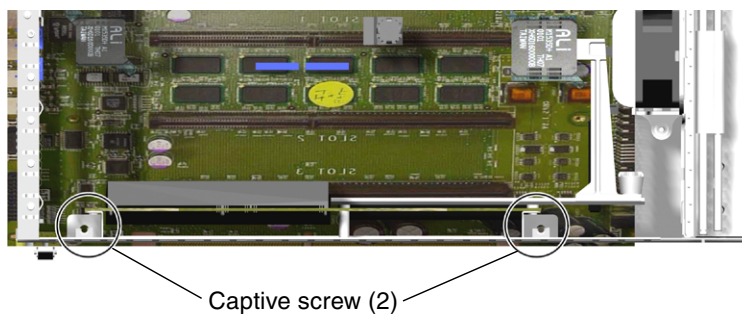

FIGURE 1-26 Location of PCI Riser Card Screws
4. **Unscrew the two captive screws which secure the PCI riser card to the system board** (FIGURE 1-26).